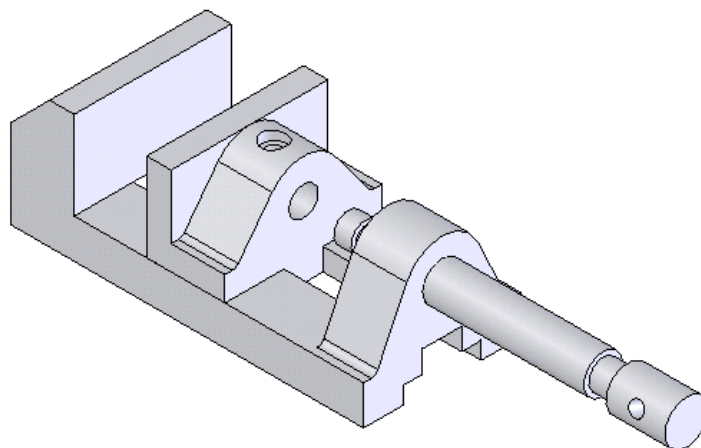

Figure 10-62 Concentric mate applied between the Jaw Screw and the Vice Body
6. Drop the jaw screw at this location to add a concentric mate between the cylindrical face of the Jaw Screw and the hole on the Vice Body. Figure 10-62 shows the Jaw Screw assembled to the Vice Body.